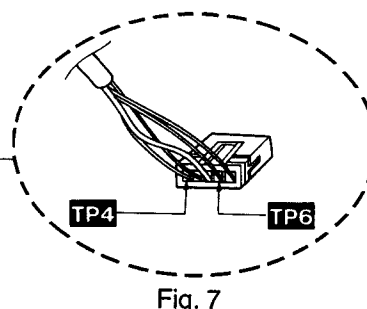

Fig. 7
4. Alternately adjust the two mechanical adjusting screws with the 2.0 mm allen wrench (SZZP1101C) until the RF signal amplitude variation on the oscilloscope is minimized. (Shown in Fig. 7)